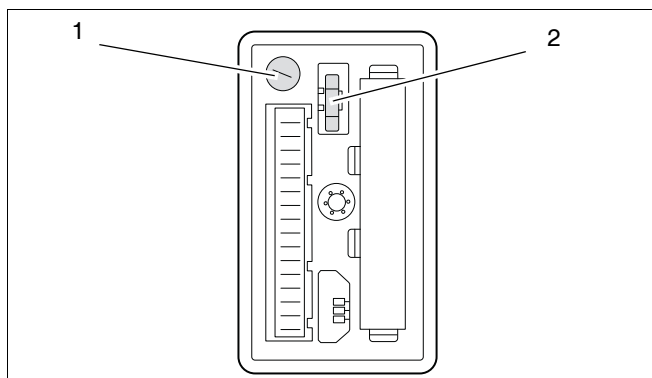

fig. 5 Checking the fuses
- Dismantle the fuse holder by loosening the bayonet connector (see fig. 5, pos. 1).
- Check the circuit continuity through the fuse using the volt-ohm-multimeter. If broken, replace it by (a new) spare ceramic fuse 5 amps, 250V fast blow (F5AH, 250V) (fig. 5, pos. 2).